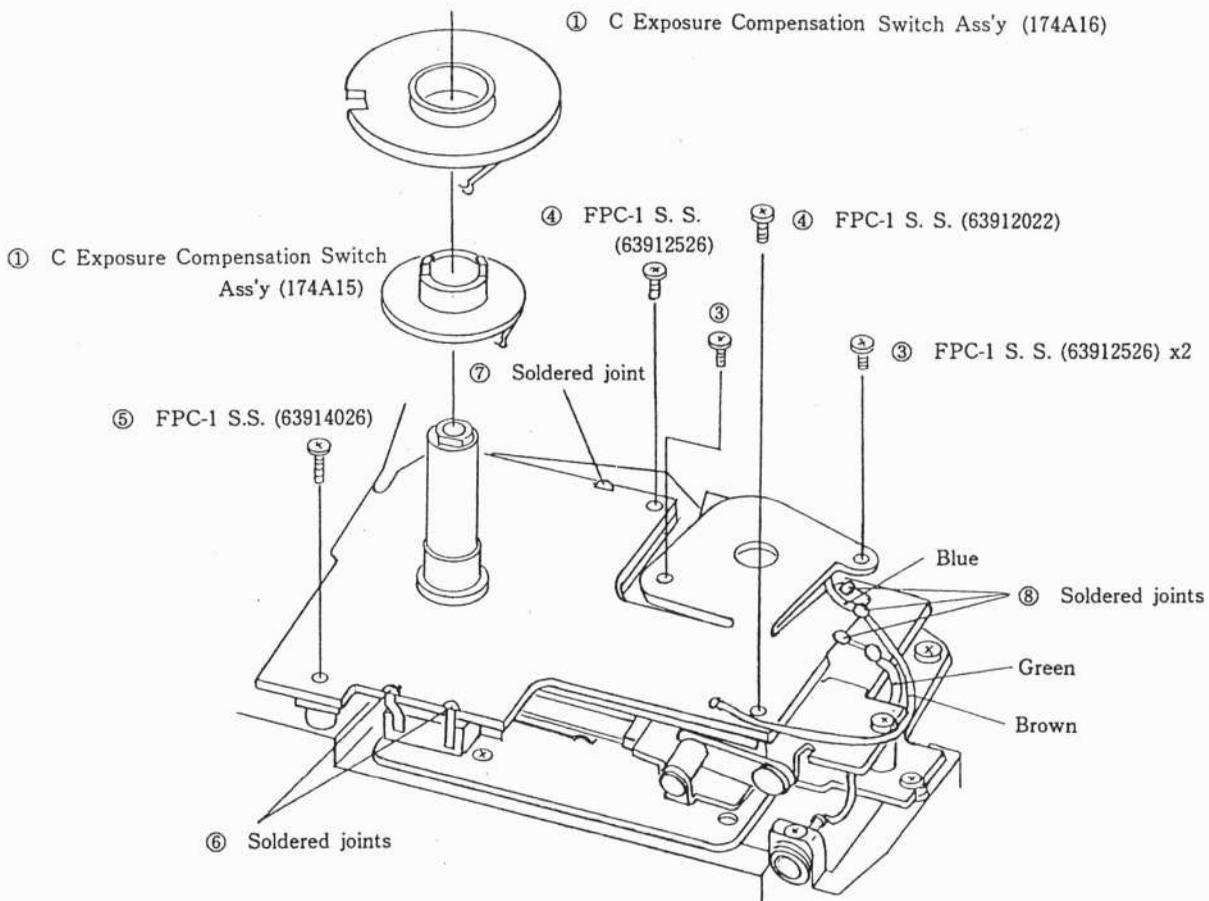

Fig. 6
1) Remove the respective parts ①~⑤ shown in (Fig. 6 ) in numerical order.